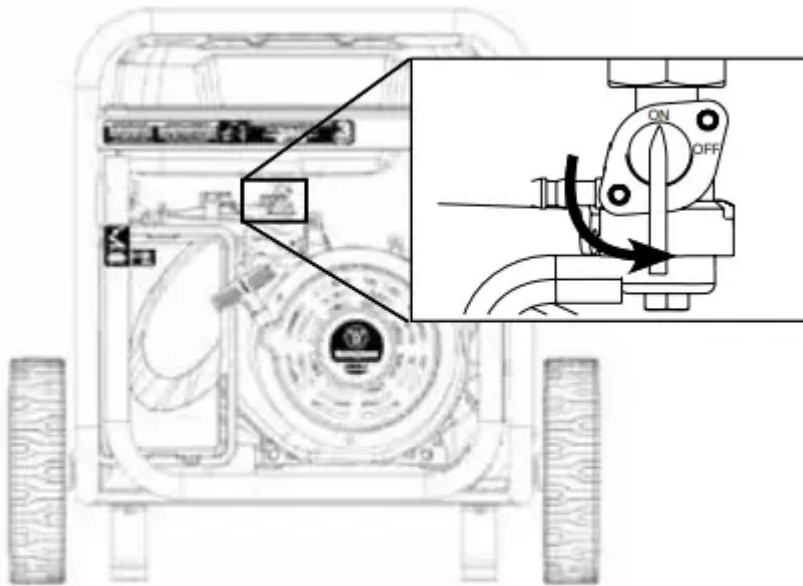

Figure 9 - Fuel Shut Off - ON
- ① 240/120V Main Circuit Breaker Operating Position
- ② 240/120V Main Circuit Breaker Tripped Position
- ③ 120V Circuit Breaker Operating Position
- ④ 120V Circuit Breaker Tripped Position
4. Move the fuel shutoff valve to the ON position (see Figure 9).
4. Move the fuel shut off valve to the ON position (see Figure 9).